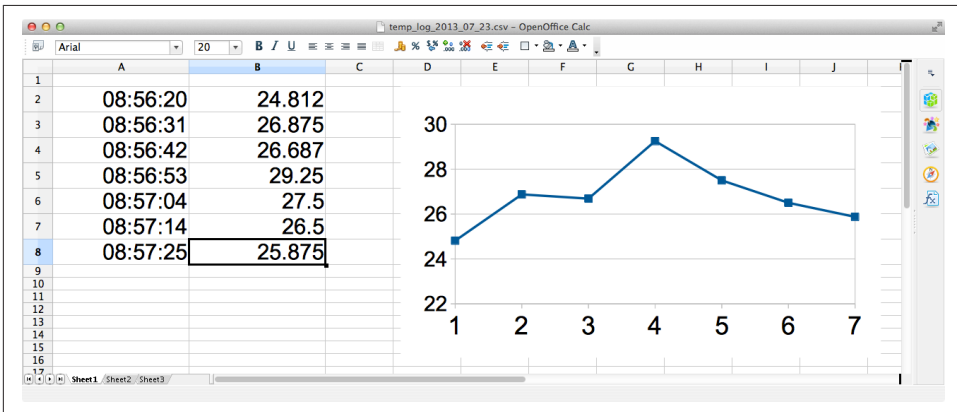

Figure 13-28. Charting data
**Figure 13-28** shows a set of data captured using this recipe, and the resulting file has been opened with the Gnumeric spreadsheet running on the Raspberry Pi.